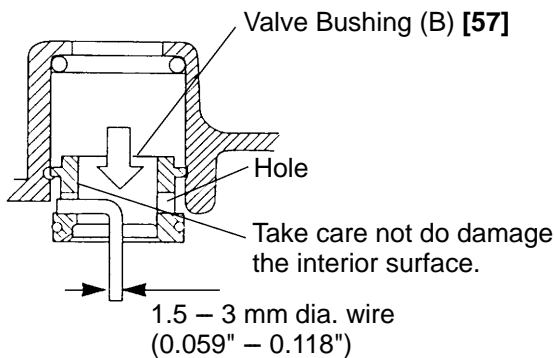

Fig. 8
- Exercise care not to damage Valve Piston (B) [60] and Valve Bushings (A) [66] and (B) [57].
- Do not draw out the tip end of Plunger (A) [64] with pliers or a similar tool.
- (3) Remove Valve Bushing (B) [57] as indicated in Fig. 8 by pulling it out with a 1.5 mm (0.059") to 3 mm (0.118") dia. wire bent at its tip and hooked into the hole of the bushing, while taking care to protect the bushing's interior surface from damaging.